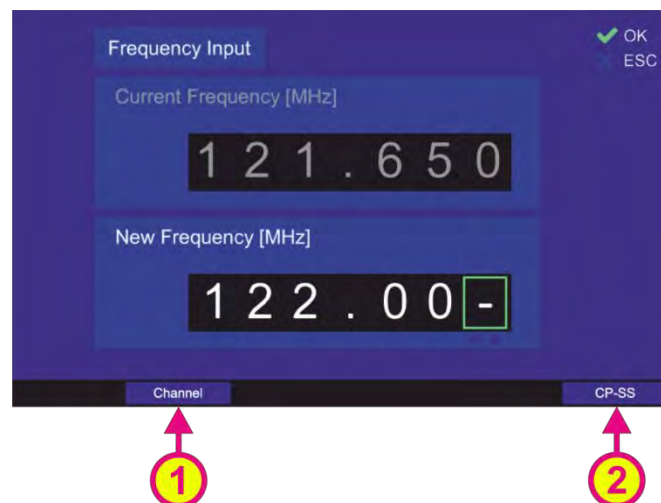
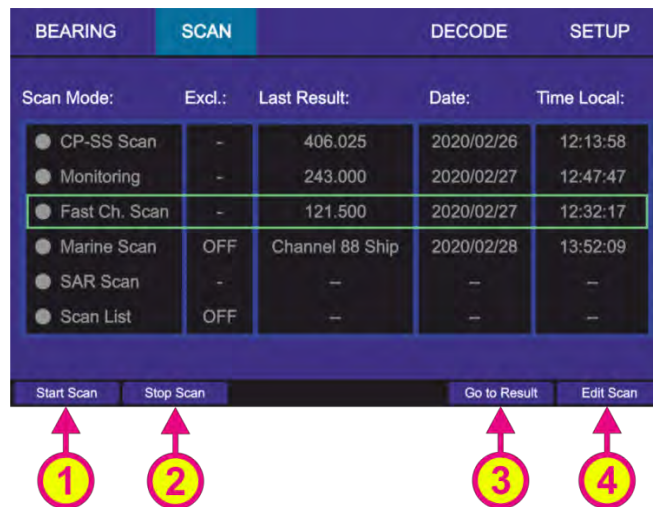
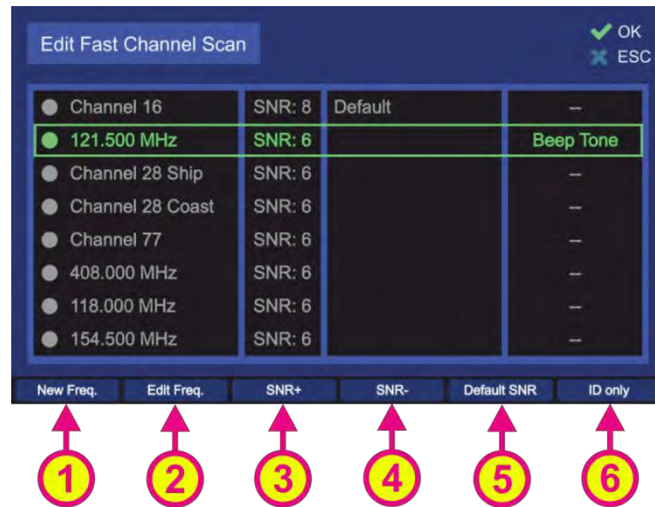
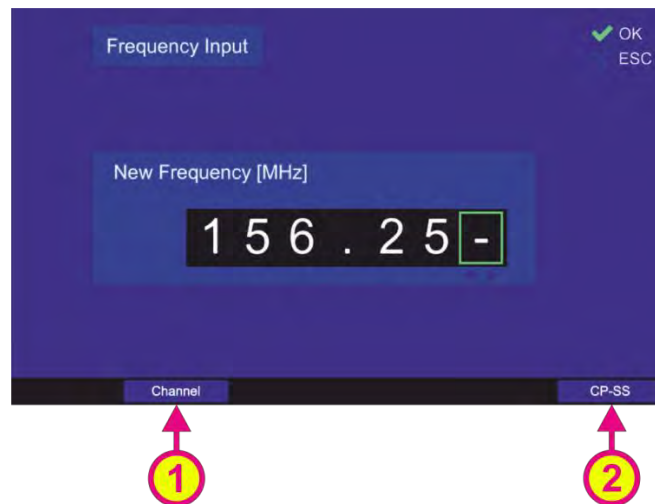

Fig. 32 Editing the current frequency
Fig. 35 Activating the “Fast Channel Scan”
Fig. 37 Fast channel scan settings
Fig. 38 Input of a new frequency to be scanned
Type the new value in the input field “New Frequency” using the keyboard of the DCU. Or use one of the hotkeys (s. Fig. 32, position 1 or 2) to switch to the “Channel” or “Cospas-Sarsat” input mask.
The “List of stored frequencies” of the “Memory” dialog (s. 6.1.2.6) internally linked to the list of frequencies of “Fast Channel Scan” (s. 6.2.3.3, Fig. 37). This only applies to frequencies that are marked for scanning (s. Fig. 15, “Scan”) in the “Memory” dialog. That means that activating/deactivating or deleting of a frequency in the “Fast Channel Scan” list causes the activating or deactivating (for scanning) of the same frequency in the “List of stored frequencies” of the “Memory” dialog.
- To start the “Fast Channel Scan” mode select the corresponding line on the “Scan” page and press “OK” or the hotkey “Start Scan” (s. Fig. 35, position 1).
- Pressing the hotkey “Stop Scan” (s. Fig. 35, position 2) will terminate the scan mode and change to the bearing of the frequency, that was set before the scan mode has been activated.
- Pressing the hotkey “Go to Result” (s. Fig. 35, position 3) during the fast channel scan is currently running, will terminate the scan mode, adopt the frequency which was found in this scan last time and change to the “Bearing” page into normal bearing mode.
- Pressing the hotkey “Edit Scan” (s. Fig. 35, position 4) will open the dialog for changing the settings of the fast channel scan (s. Fig. 37).
- The hotkey “New Freq.” opens the dialog for adding the new frequency in the list (maximum 8 frequencies/channels). Use the keyboard of the DCU to input the new frequency into the corresponding input field or use one of the hotkeys (s. Fig. 38, positions 1 and 2) to open the “Channel” or “Cospas-Sarsat” input mask.
- The hotkey “Edit Freq.” (s. Fig. 37, position 2) opens the input dialog that allows the modification of the currently marked frequency (s. Fig. 32 and its description in 6.2.2.4, the appearance of the dialog is different from the input of a new frequency that is presented in the Fig. 38).
- Pressing the hotkey „SNR+” (s. Fig. 37, position 3) will increase the SNR value of the currently marked frequency by 1%.
- Pressing the hotkey „SNR-“ (s. Fig. 37, position 4) will decrease the SNR value of the currently marked frequency by 1%.
- Pressing the hotkey “Default SNR” (s. Fig. 37, position 5) will set the SNR value of the currently marked frequency to the default value, which can be defined on the “Setup” page (s. 6.4.3.13).
- Pressing the hotkey “ID only” (s. Fig. 37, position 6) activates or deactivates the feature “ID Only” with two possible settings:
be opened (s. Fig. 38 and its description in 6.2.3.3), where you can input any desired frequency.